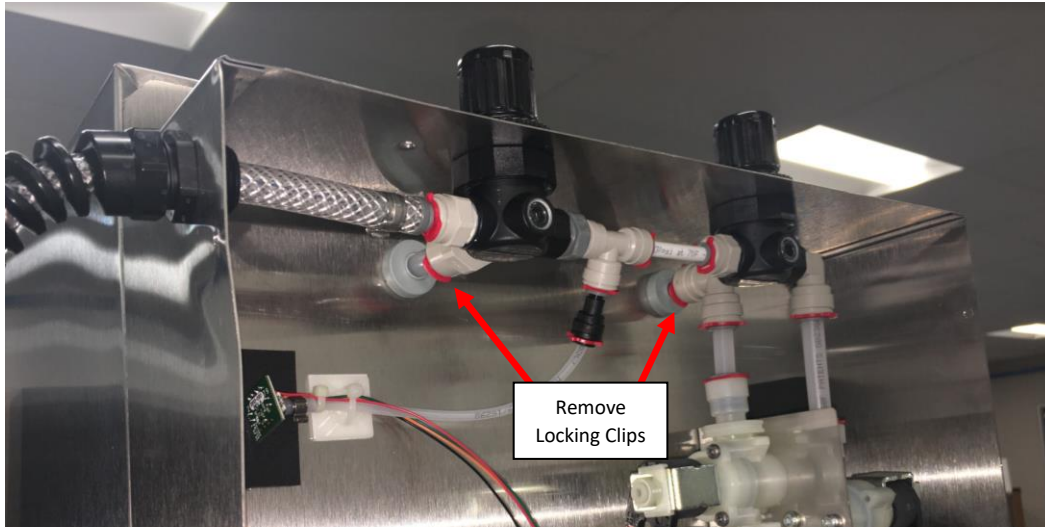

Figure L4: Controller Board Enclosure placed back in its original location.
5. Remove the Locking Clip in the Push to connect elbow fitting that is connected to the Flowmeter-Solenoid Module and located behind the Right Regulator at the connection with the Tubing coming out of the Fridge. See Figure L4.